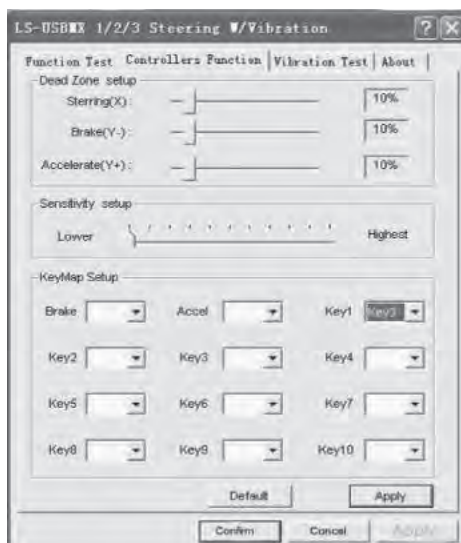

Fig. 8
• Choose Controllers to set axes and keys (see Fig. 8).
• Dead Zone setup: controller will not respond to a slight touch of acceleration pedal (Accelerate Y+), or brake pedal (Brake Y-), or turns of the wheel (Steering X), therefore necessary adjustments should be made by cursors (Fig. 8);
to pressing of pedals and turns of the wheel will be, therefore necessary adjustments within Lower to Higher range should be made by cursors (Fig. 8);
- KeyMap Setup reprograms functional keys: there should be chosen new necessary assignment against the key designation (Fig. 8);
- after installation of the driver, the controller can be automatically centered by pressing MODE button ⑥.